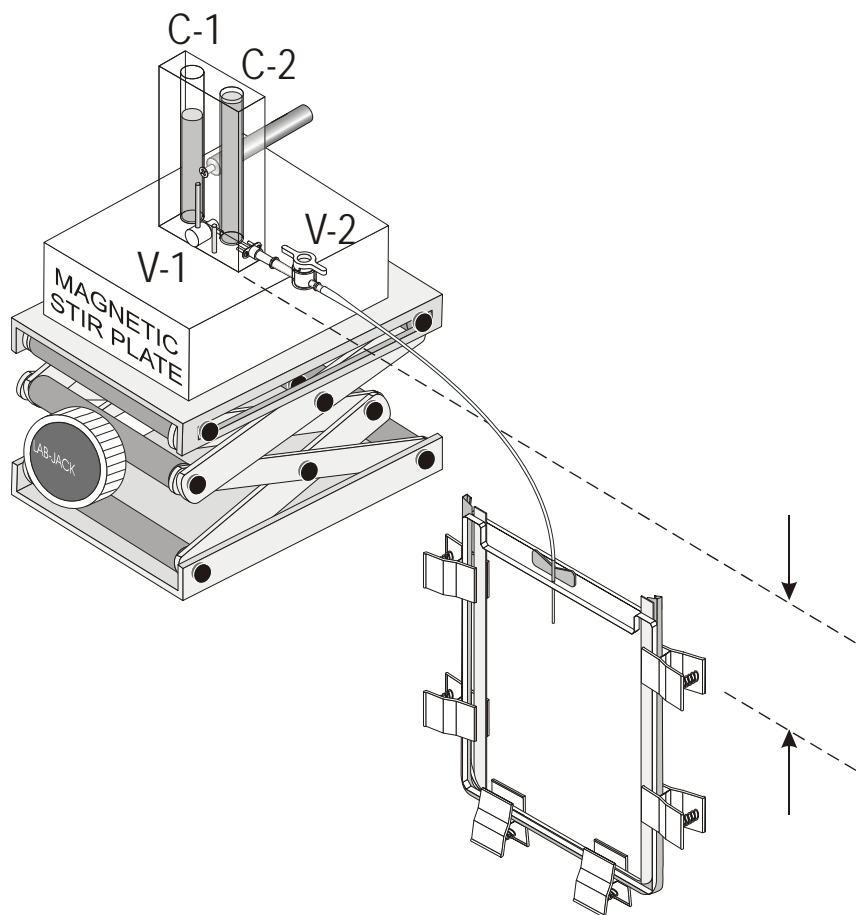

Fig. 3-5
3. Pour solution "B" into right side of gradient maker (C-2),(GM-40) (fig. 3.5), and open interior valve to allow air bubble to escape. Let as much as 1 ml "B" solution BACKFLOW into left side of gradient maker. Decant the 1 ml back into right side with pasteur pipette. Remove any residual solution from (C-1) with absorbent paper.